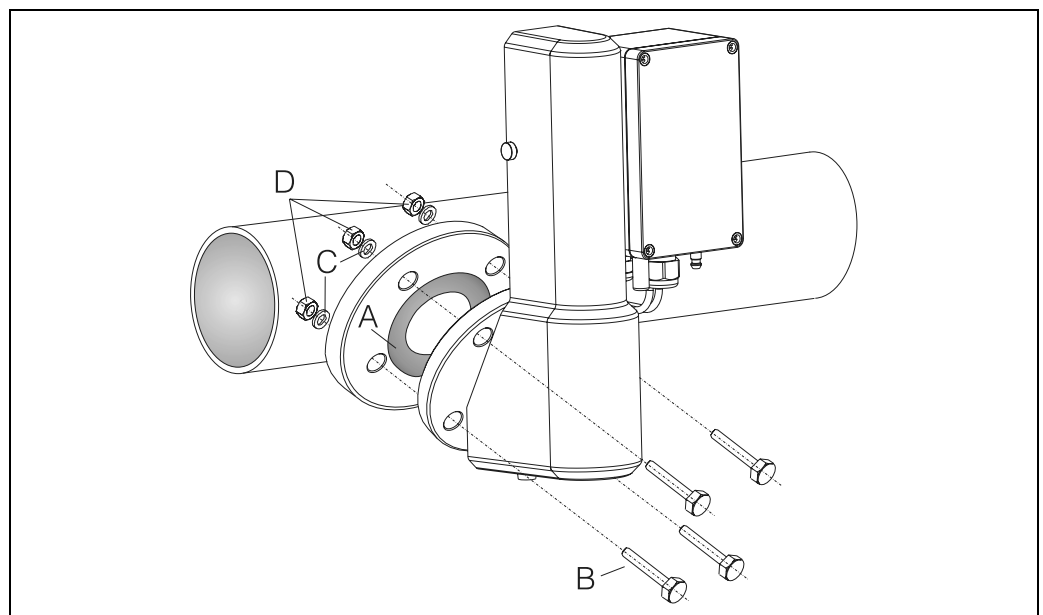

Fig. 4: Mounting the ASP Inline assembly at the sampling position
1. First, insert the gasket (Fig. 4, item A) between the two flanges.
2. Then screw the assembly together, as shown in → Fig. 4.